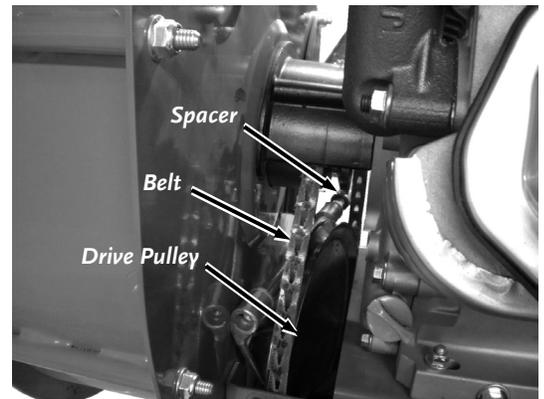

Figure 47
7. Lift the Drive Assembly upward in the Frame as you remove the Linked Belt from the Drive Pulley (**Figure 47**).
12. Reinstall the Spacer on to the Drive Unit Pivot Shaft and raise the Drive Unit into the Frame (**Figure 47**).